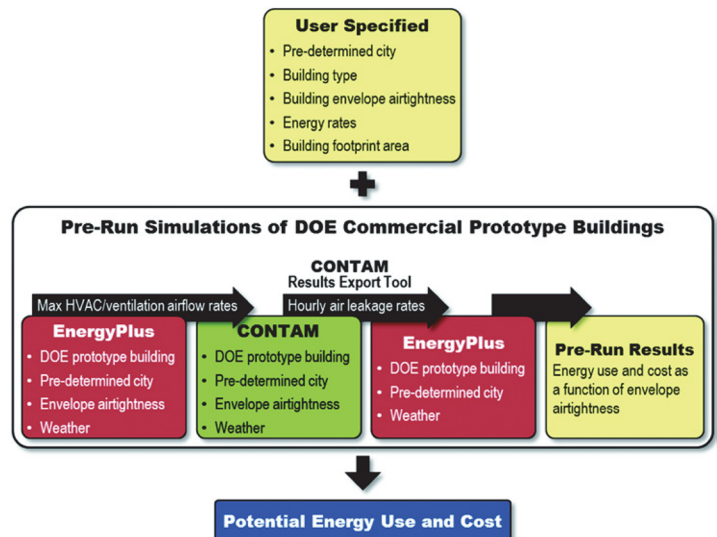

Figure 1: General procedure to estimate potential energy costs for different levels of envelope airtightness in DOE commercial prototype buildings.
The online energy savings and moisture transport calculator for commercial buildings (<http://www.airbarrier.org/technical-information/energy-savings-and-moisture-transport-calculator/>) is described in Figure 1. The calculator includes seven (7) of the sixteen (16) DOE archetypes that are used in Code development.